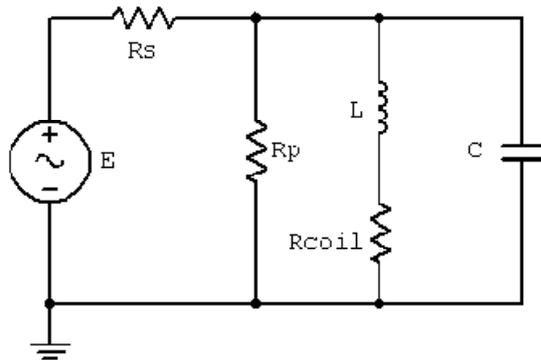

Figure 7.1
1. Using Figure 7.1 with $R_s=100$ kohm, $R_p=2.2$ k ohm, $L=10$ mH, $R_{coil}=7$ ohm and $C=10$ nF, determine the theoretical resonance frequency and Q, and record the results in Table 7.1. Based on these values determine the upper and lower frequencies defining the bandwidth, f_1 and f_2 , and record them in Table 7.1 also.
2. Build the circuit of Figure 7.1 using $R_s=100$ kohm, $R_p=2.2$ kohm, $L=10$ mH and $C=10$ nF. Set the output of the generator to a 10 V p-p sine wave at the theoretical resonant frequency. The large value of R_s associated with the voltage source will make it appear as a current source of approximately .1 mA p-p, assuming the parallel branch impedance is much less than R_s . Place a probe across the parallel branch. Set the frequency to the theoretical resonance frequency of Table 7.1. Make sure that the *Bandwidth Limit* of the oscilloscope is engaged for both channels. This will reduce the signal noise and make for more accurate readings.